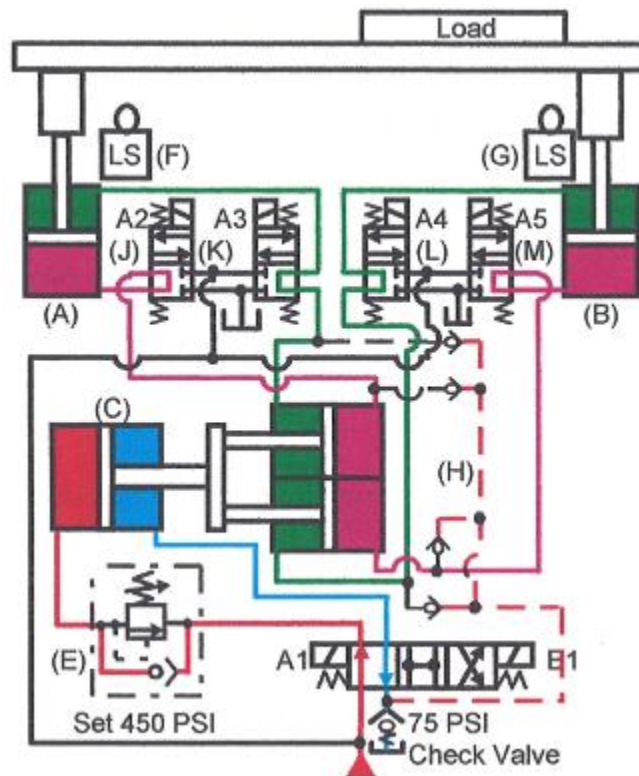

Figure 22-30. Master-and-slave-cylinder synchronizing circuit. Solenoid A1 energized, extending.
Figure 22-30 shows solenoid A1 on the 4-way directional valve shifted to extend cylinder (C). Cylinder (C) pushes cylinders (D), and oil from the cap ends of cylinders (D) flows equally to the cap ends of cylinders (A) and (B). Oil from the rod ends of cylinders (A) and (B) returns to the rod sides of cylinders (D). Cylinders (A) and (B) extend in unison if cylinder (C) has enough power to do the job. If one working cylinder stalls, both stop.